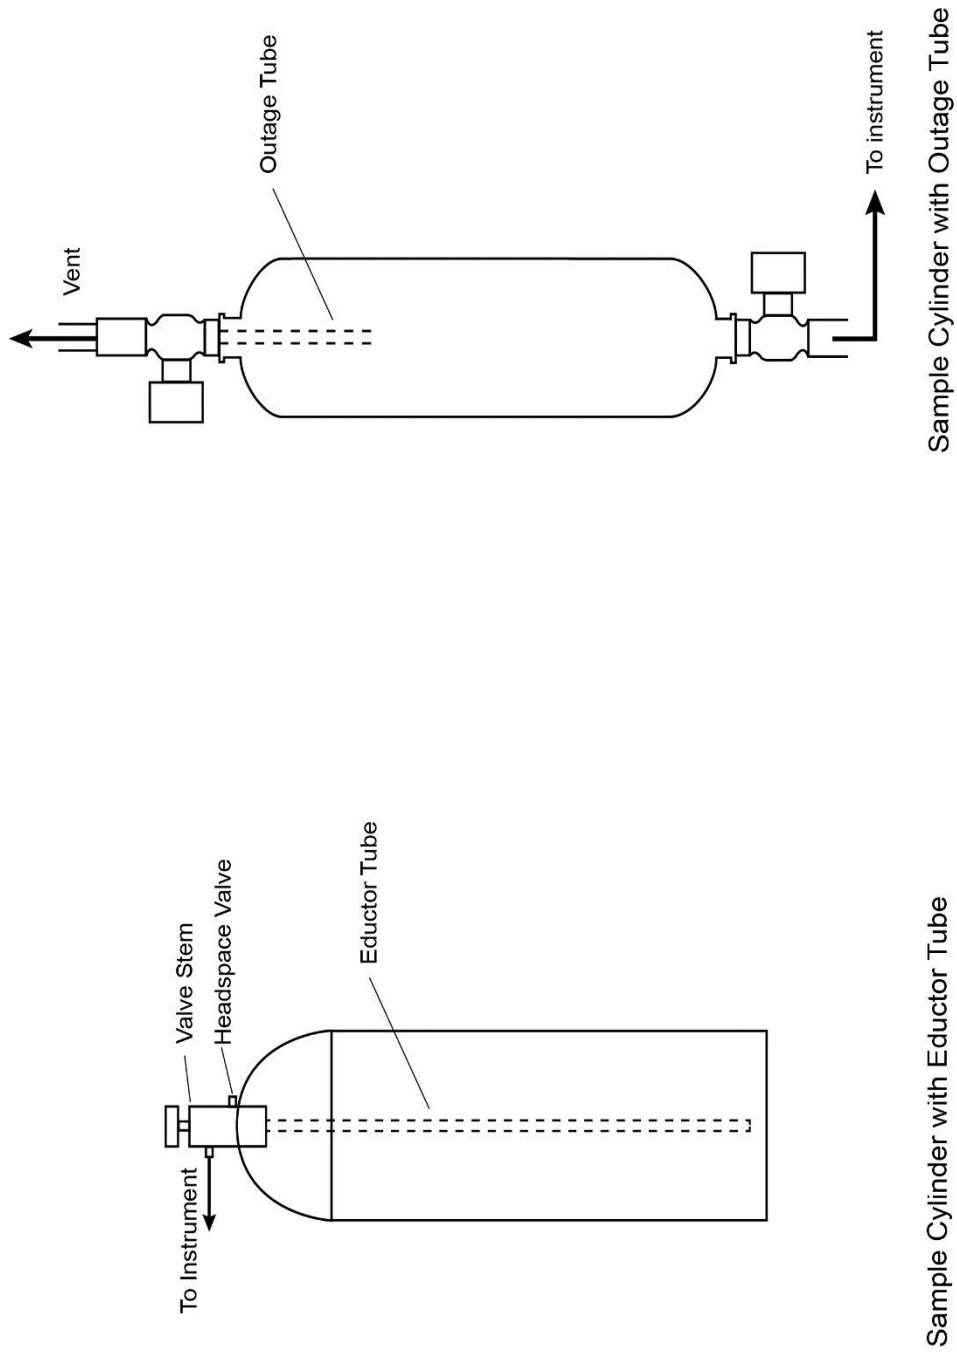

Figure 2
1. Connect the valve on the eductor tube of the LPG calibration blend. Figure 2 shows common LPG sample cylinders
5. Mount the cylinder in a vertical position so that the non-outage tube end is facing downwards and connect the bottom valve to the sample injector valve inlet tubing (Figure 2)